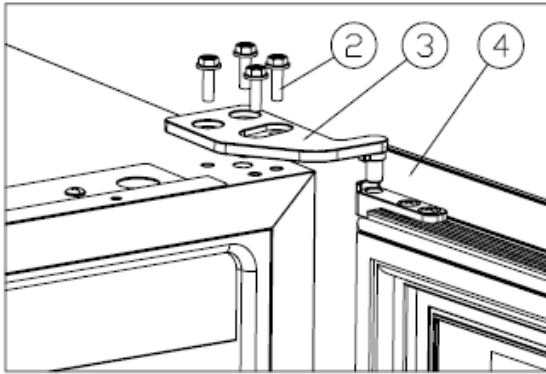

Figure 1
- ✧ Unscrew the M5*16screws②, dismantle the right upper hinge, and remove the door. [Figure 1].